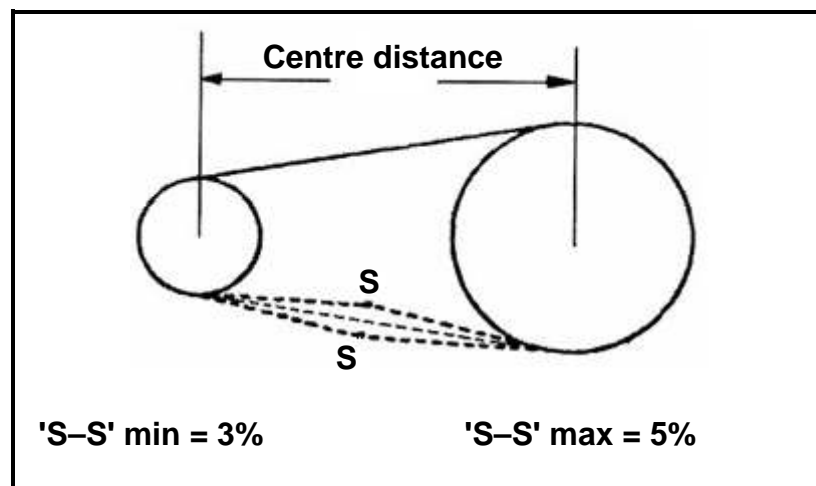

FIGURE 1.3
- 1.14 Which step in adjusting the tension in the chain of a chain drive does FIGURE 1.3 below show?